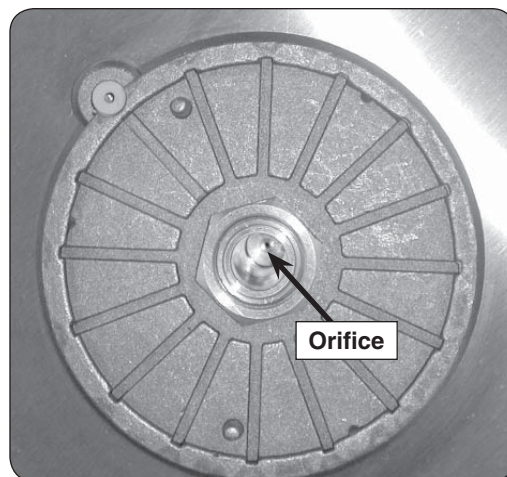

Fig. 18-1 Burner - top view
3. Using a $\frac{3}{8}$ " socket, remove the orifice (see Fig. 18-1) and check the number stamped on the orifice face.